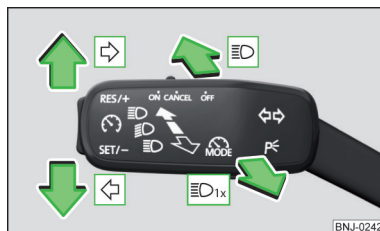

Fig. 41
Control stalk positions » Fig. 41
- Press the control lever all the way into position **↷** or **↶** until it stops» Fig. 41 on page 54.